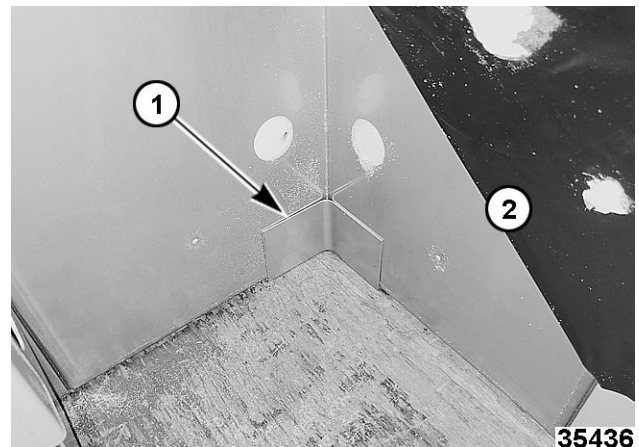

Fig. 28
1. Install rear corner trim (1, Fig. 28) at both rear corners of cabinet by applying NSF approved silicone to back of trim and placing it snugly against side wall and back wall (2, Fig. 28). The silicone will hold trim in place.